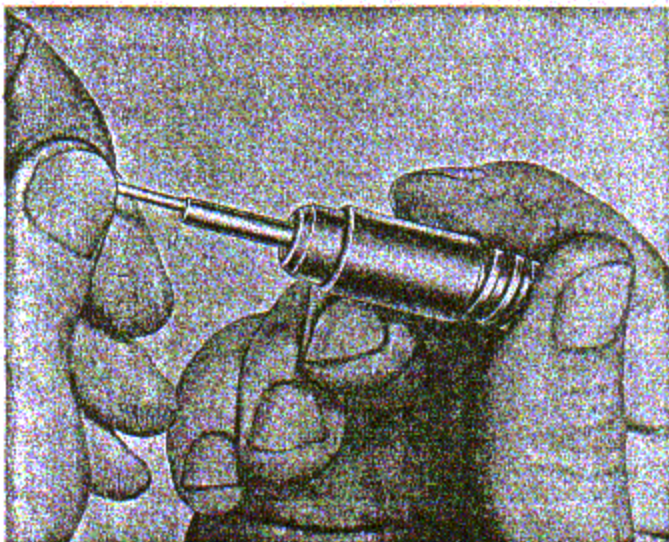
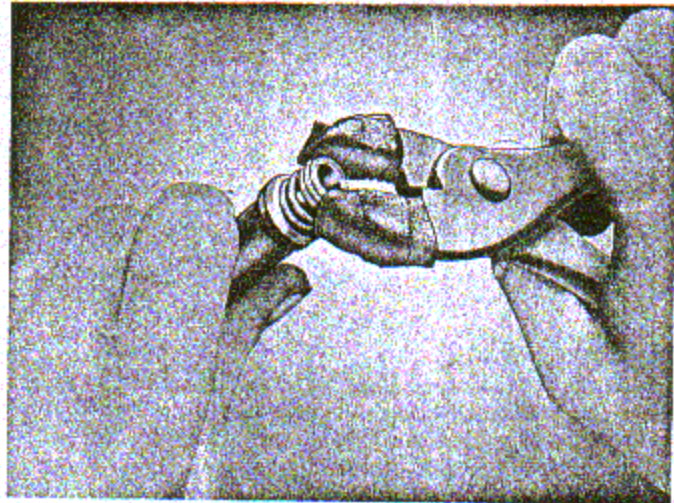

Figure 9-1. Releasing Hydraulic Unit Check Valve
Figure 9-2. Disintegrating Carbon Ring to Release Hydraulic Unit Plunger
d. Unless the plunger is seized or held in the hydraulic unit by a ring of carbonized gum, it may be removed by twisting in the direction which tends to wind up the spring under its head while pulling outward. If the plunger cannot be removed in this manner, release oil trapped under it by inserting a match stick or medical swab stick into the inlet tube and depressing the ball check valve while pressing the plunger inward. (See figure 9-1.) If the plunger cannot be moved in this manner it is seized in the cylinder, and the unit must be discarded. If the plunger can be depressed it will be possible, in most instances, to disintegrate the ring of carbon which prevents its removal by gripping the plunger head with tape covered jaws of a pair of common pliers and twisting with an oscillating motion while pulling outward. (See figure 9-2.)